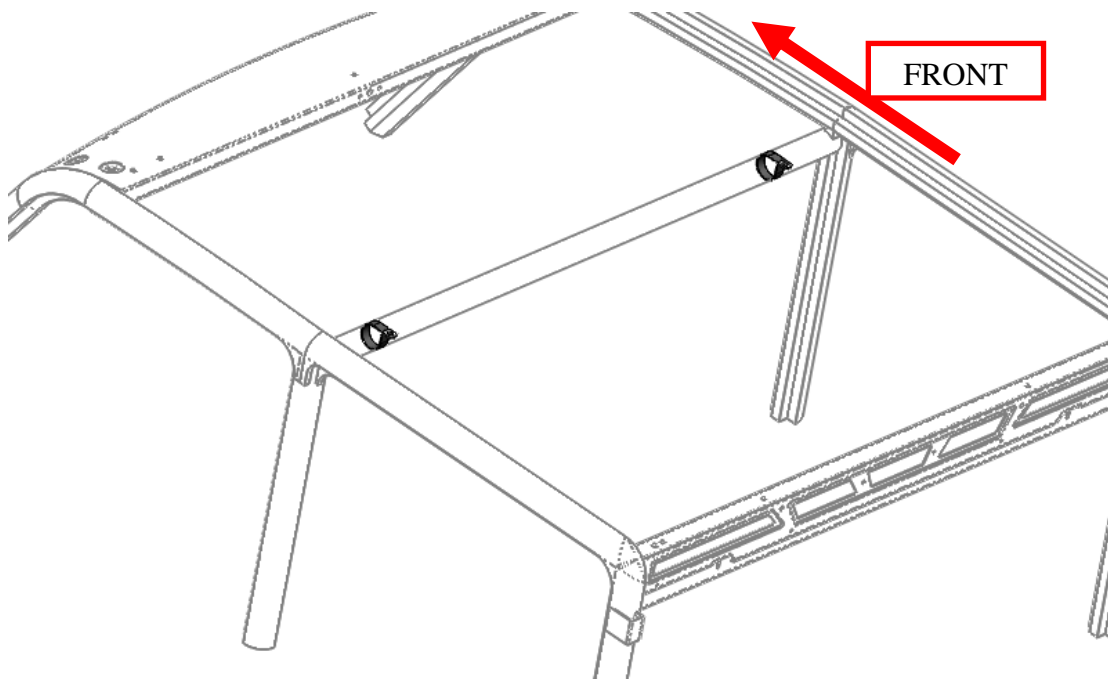

Figure 4: Approximate clamp locations.
1. Spread the clamps by hand and slide them over the cage tubing. Place them on the cage in the approximate locations shown in Figure 4. Note the orientation of the clamp tab pointing towards the rear of the vehicle. It must line up flat against the top on the correct side of the tubing.